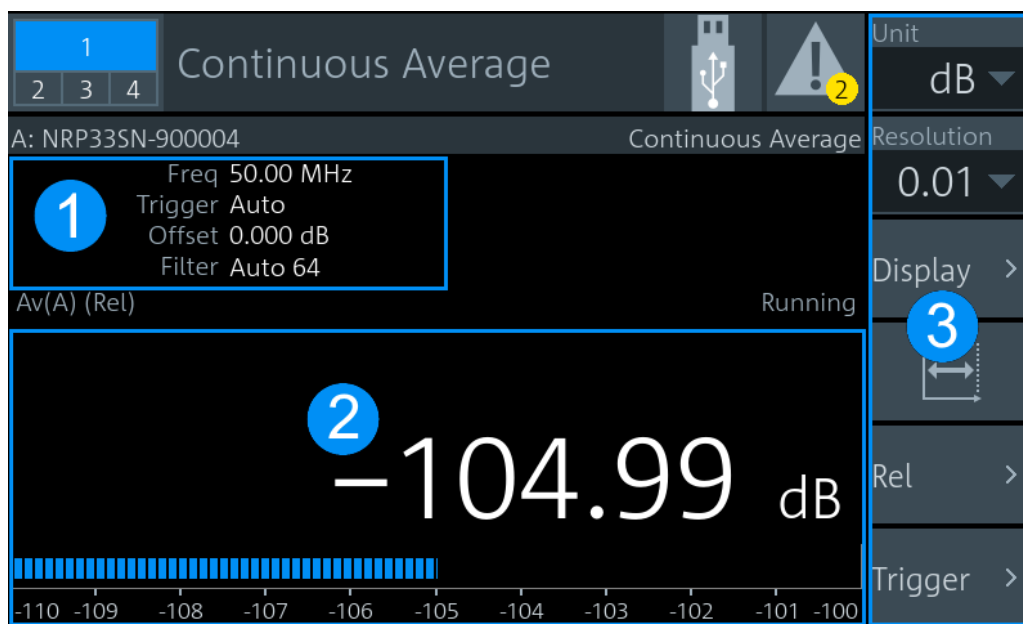

Figure 4-2: Layout of the main measurement dialog (example)
- ▶ Tap the *displayed measurement value or graphic*, area (2) in Figure 4-2, to change the measurement type, assign a sensor, access the sensor settings, ...
- ▶ Tap the *displayed settings*, area (1) in Figure 4-2, to access the sensor settings.
- ▶ Tap an *element in the navigation pane*, area (3) in Figure 4-2, to configure the trigger, the presentation of the measurement result and further measurement-specific settings.